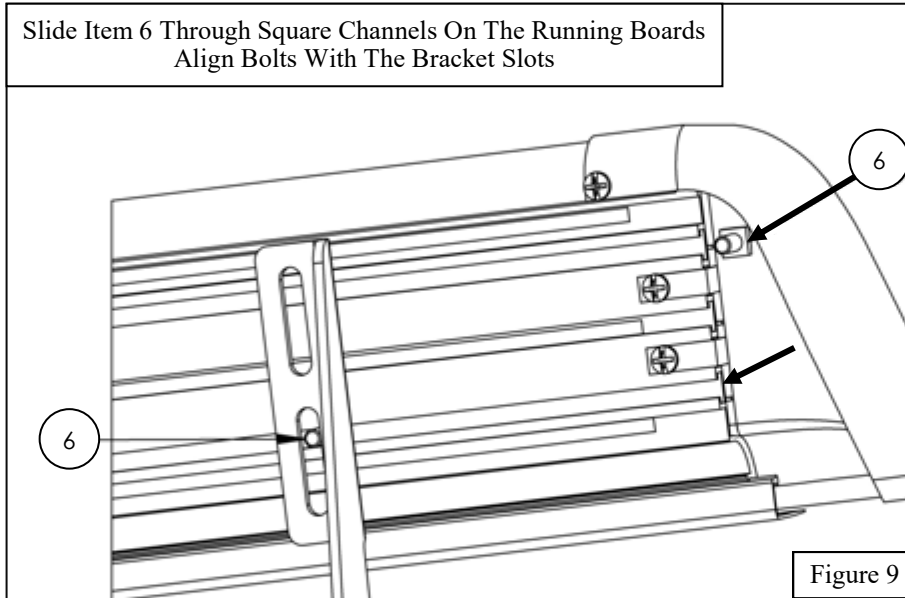

Figure 9
9. For each running board, slide (6) M8 Square Head Bolts (**item 6**) through the slots on the bottom of the running board (excluding the center slot, three bolts per slot). See **Figure 9**.